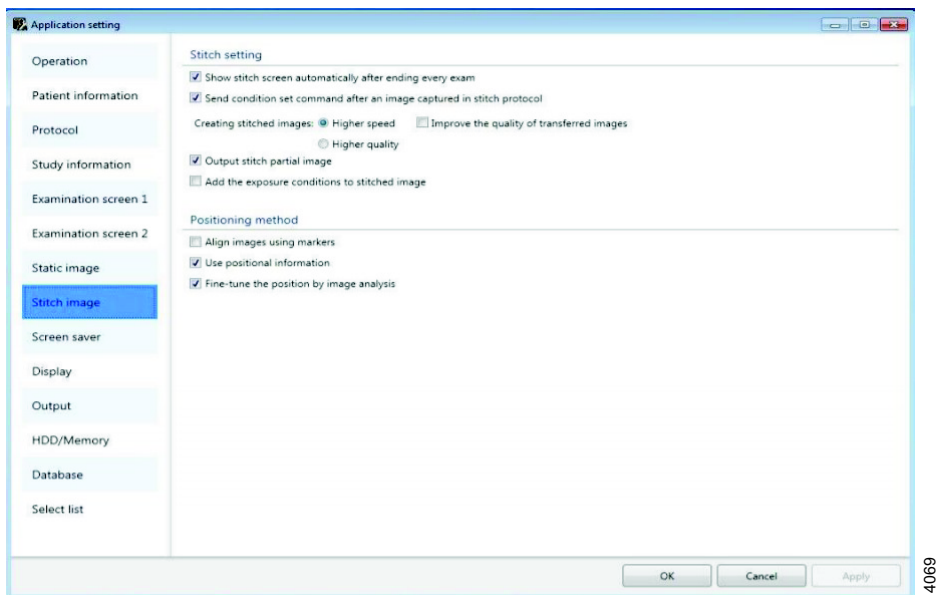

Fig. 5-18 Application Setting/ Stitch image
3. Select Stitch image and confirm that settings are according to Fig. 5-18.